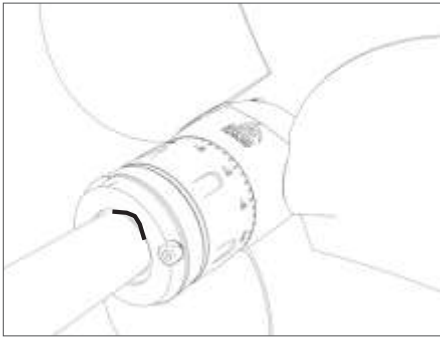

FIG. 15 Insert the propeller up to the mark made with the felt-tip
- The propeller must be fitted onto the cone of the propeller shaft until it reaches the mark made before key insertion (**Fig. 15**); failing this indicates that the key is too high and prevents the propeller from fitting completely. In this case you will have to reduce the thickness of the key and then reinstall the propeller.